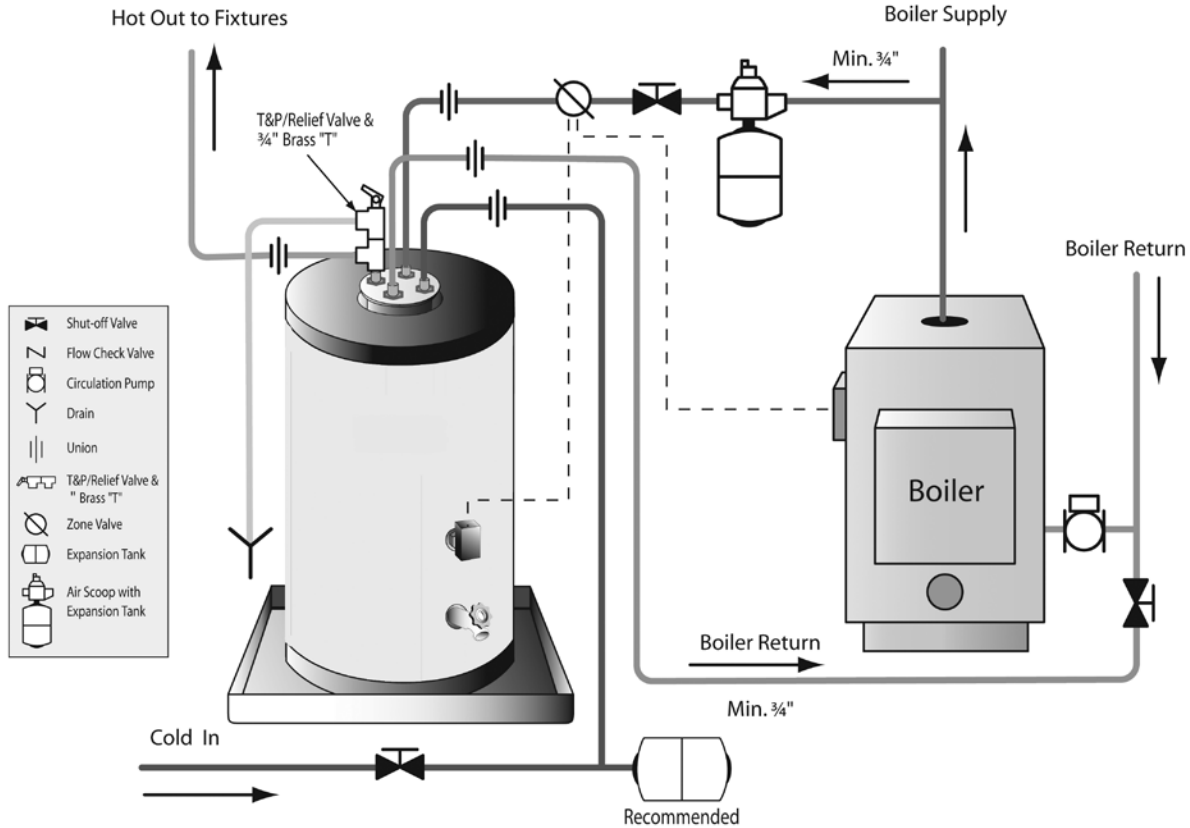

Figure 1: General Configuration
- T&P installed as shown in Figures 1, 2 and 3.
#### E. WATER SUPPLY CONNECTIONS **(See Figure 1, 2 & 3).**
See Figure 1 & 2 and separate TPI control wiring diagrams.